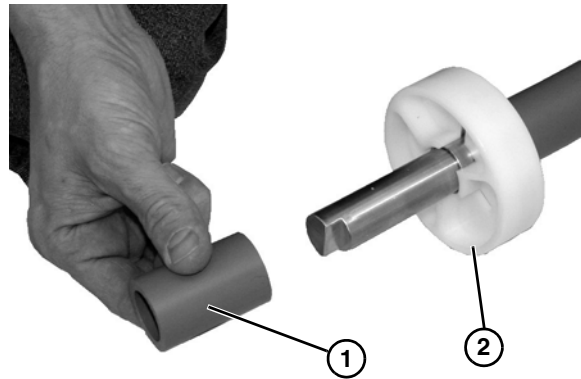

Figure 40
5. Slide off the round puck spacer (Figure 40, item 1).
6. Slide off puck (Figure 40, item 2) and replace if worn.